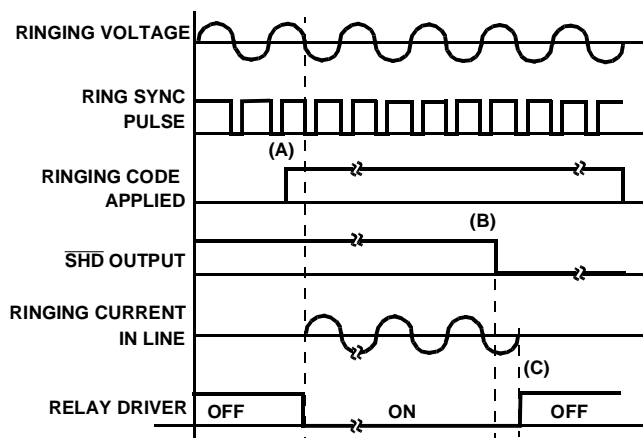

FIGURE 19. RINGING SEQUENCE
Figure 19 shows the sequence of events from ringing the phone to ring trip. The ring relay turns on when both the ringing code and ring sync pulse are present (A). SHD is high at this point. When the subscriber goes off hook the SHD pin goes low and stays low until the ringing control code is removed (B). This prevents the SHD output from pulsing after ring trip occurs. At the next zero current crossing of the ring signal, ring trip occurs and the ring relay releases the line to allow loop current to flow in the loop (C).